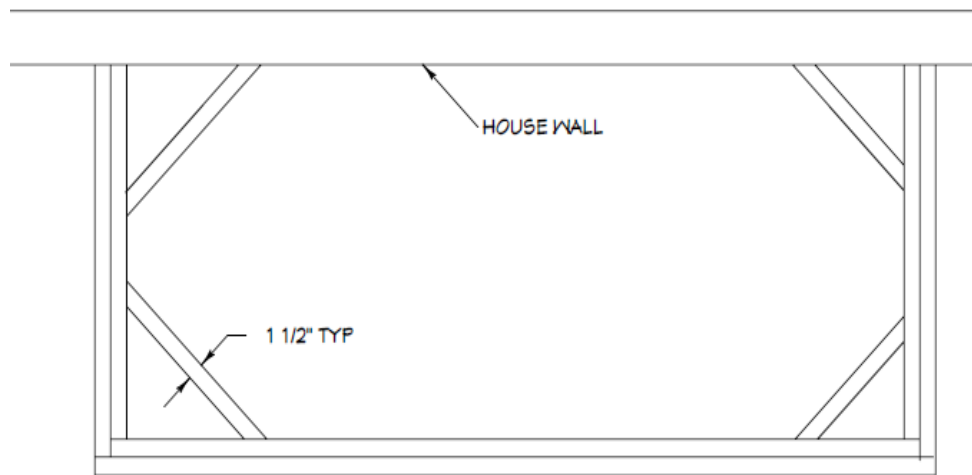

Figure 6-2. Porch Bracing.
- At the house wall, measure the distance between the two outside faces of the end pieces. Cut one 2x6 to this length, and one 3" shorter. Lift the shorter of the two into place and nail it to the ends of the inside 2x6 end pieces, keeping the ends flush top and bottom, and the outside end pieces tight. Nail the longer of the two pieces to the ends of the outside end pieces, keeping the ends flush with the outside face of the end piece. See Figure 6-2. Use three ¾" Paslode nails at each joint. Nail the 2x6 pairs together with three ¾" Paslode nails every 24" along the length of the headers. Use a clamp or other method to keep the top and bottom edges flush. Put the nail in at an angle to be sure the points do not protrude.
- Cut four 2x6 pieces about 40" long to be used as diagonal braces, after checking the length required. Cut a 45° bevel on each end. These will be installed diagonally in all four inside corners of the porch framing to hold them square. See Figure 6-2.